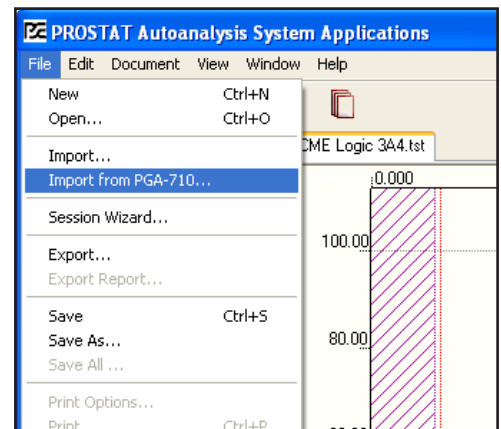

Figure 54: The File Menu can be used to Import Data
- Or, Open **File** drop down menu and select Import from PGA-710. (See Figure 54.)